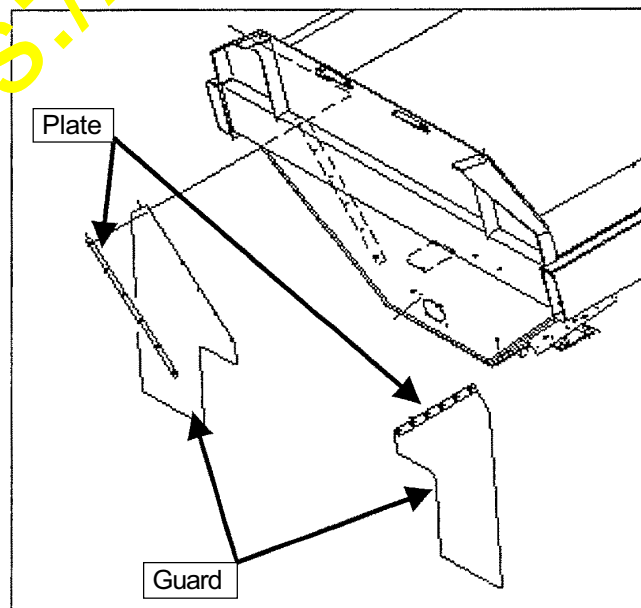

Fig. 2
- 3-2 Remove the guard and plate to avoid damage during mending by weld (See Fig. 2).